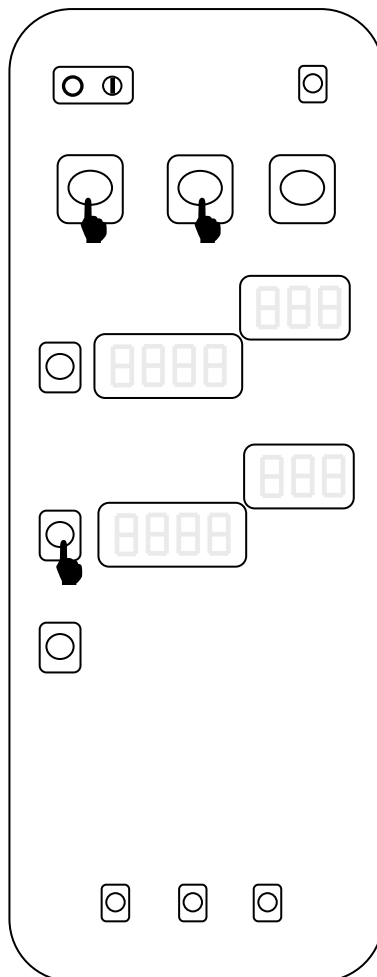

Fig. 21
- Steam cycle, combi cycle, time buttons (fig. 21): activation of rinser pump